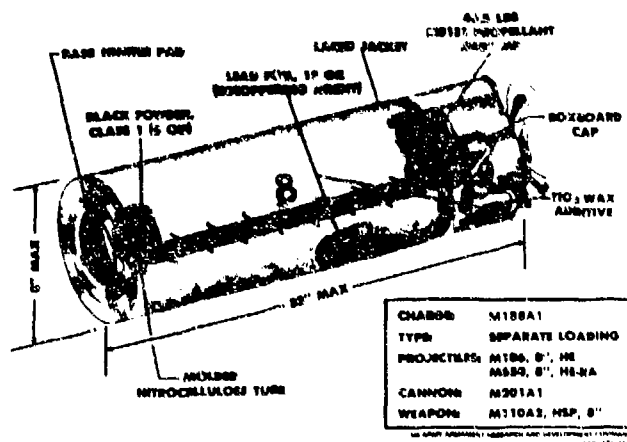

Figure 11-40. 8-inch propelling charge M188A1.
*b. 8-inch propelling charge.* The M188A1 propelling charge (fig 11-40) is a two-increment powder charge (zones 8 and 9) for use in the long 8-inch tube on the M110A2 self-propelled howitzer. Early production models of the M188 charge, zone 8 (fig 11-41) were classified Standard for use in the M110A1 SP howitzer to fire a conventional projectile to a range of 20,600 meters. Additional tests were made on the long tube 8-inch howitzer to include adding a muzzle brake to the tube and adjustments to the recoil mechanism for the purpose of firing the M188A1 zone 9 (fig 11-40) with conventional ammunition to a range of